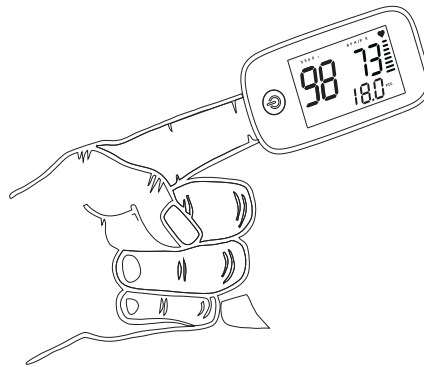

Figure 6 Finger Placement Diagram
- It is recommended to let the LED light shine directly on the nail (Figure 6);